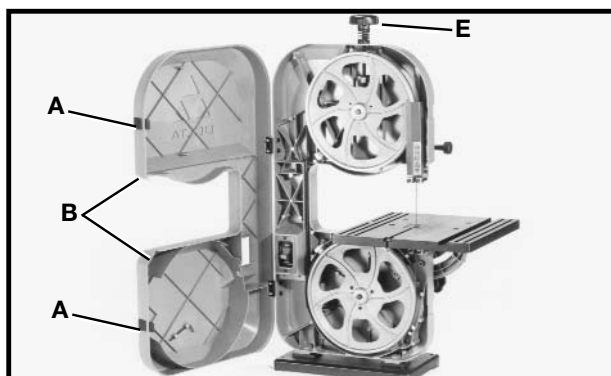

Fig. 34
1. Press in door latches (A) Fig. 34, and open door (B) as shown.
3. Release tension on the band saw blade by turning tension knob (E) Fig. 34 counterclockwise.
9. Close door (B) Fig. 34, before operating saw.